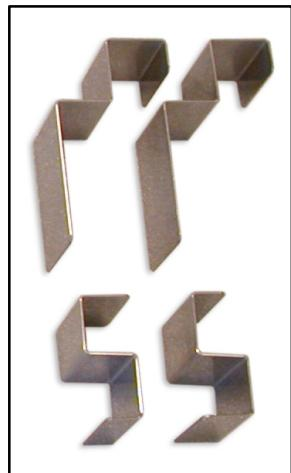

Figure 12, Support brackets: Upper (top) and Lower (bottom)
1. Find the four Cover Support Brackets (Figure 12).